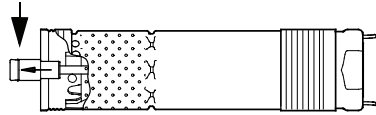

Fig. 10 Pump shaft position
- Pull the pump shaft out to the position shown in fig. 10.